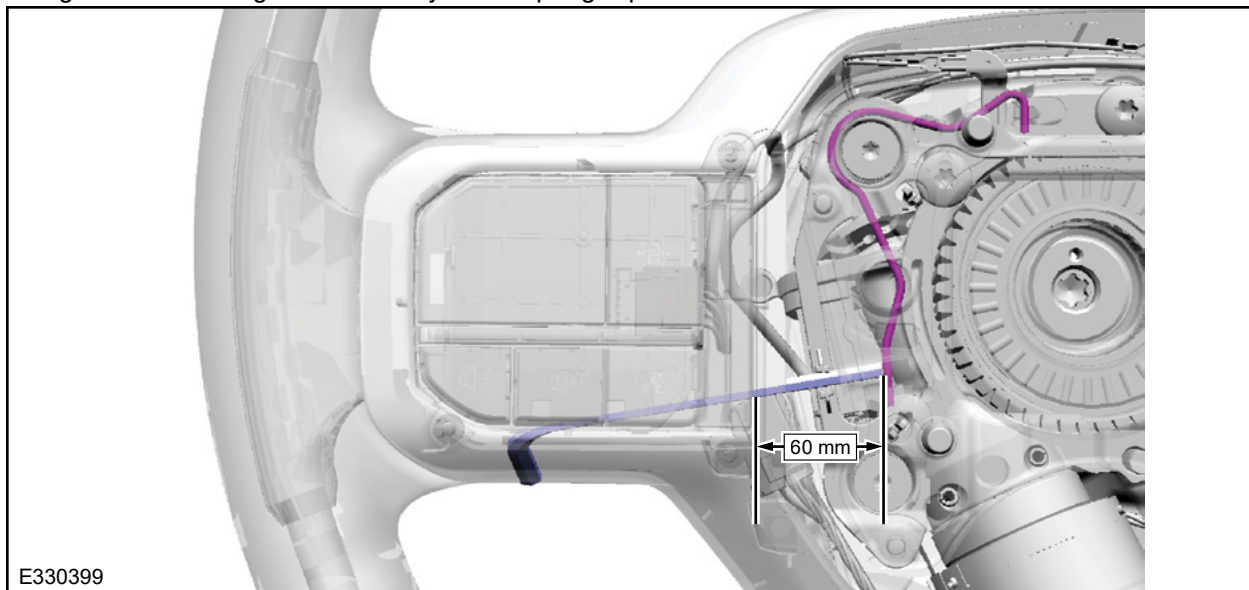

FIGURE 2
3. Contact the Allen key to the spring clip. See Figure 2.